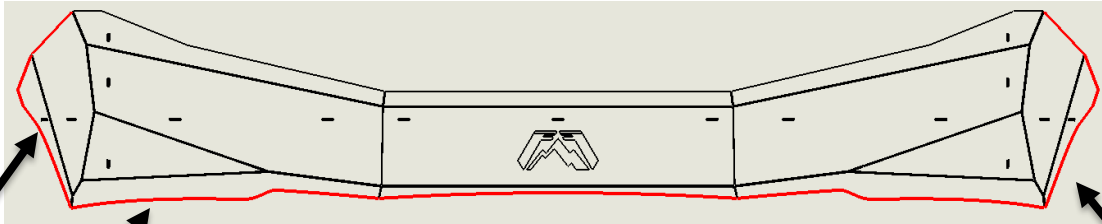

Fig 13
- f. Install the edge seal with adhesive onto the leading edge of the cowl as shown in **Fig 13**.